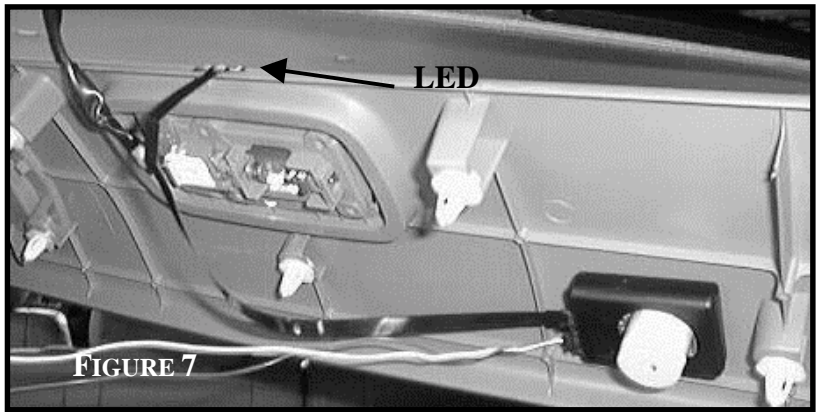

FIGURE 7
- B. Install the LED display on the front edge of the upper rear panel centered with the cargo light. FIGURE 7.